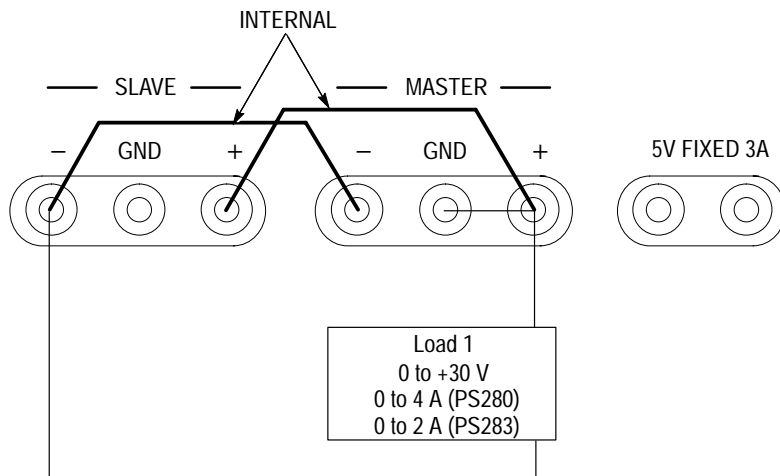

Figure 14: Parallel Tracking Application
2. Connect the outputs as shown in Figure 14 on page 24.